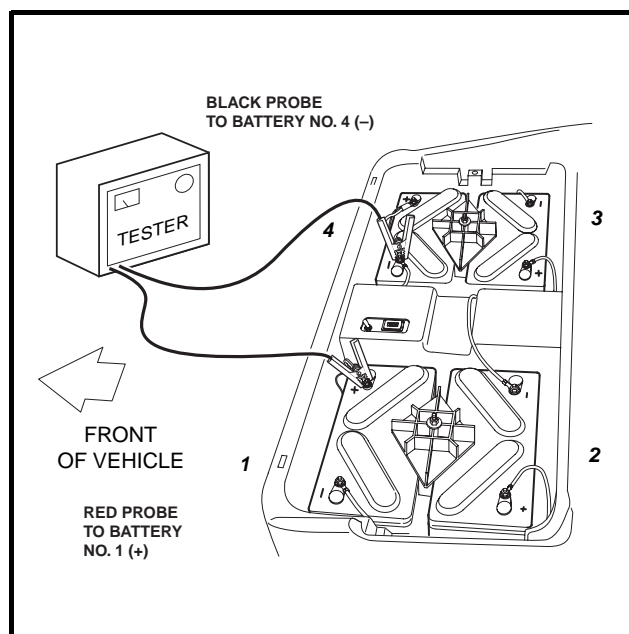

Figure 13-5 Battery Discharge Test
2. Connect the tester leads to the positive (+) post of battery no.1 and negative (-) post of battery no. 4 (Figure 13-5, Page 13-9).